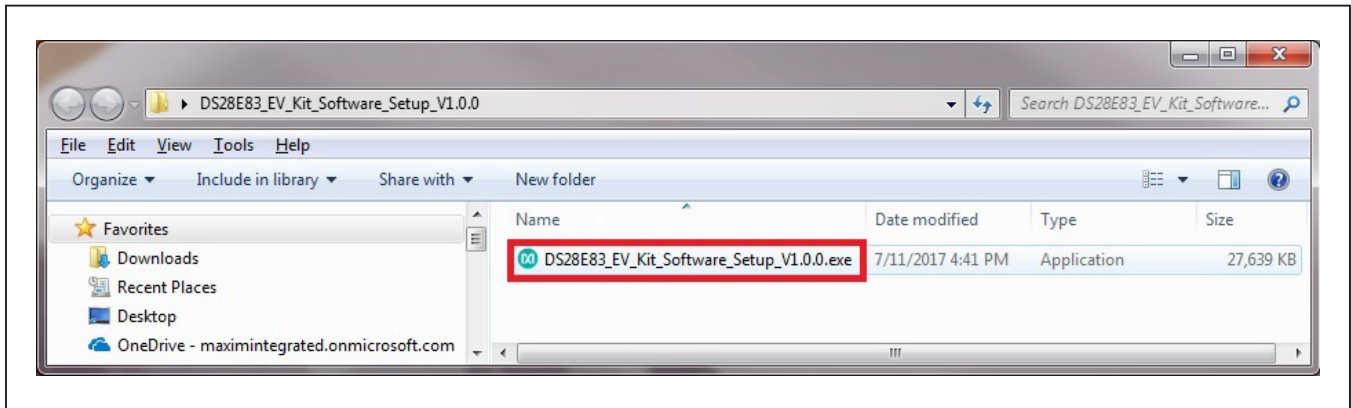

Figure 1. File Viewer
2) In a file viewer (Figure 1), double click on **DS28E83_EV_Kit_Software_Setup_V1.0.0.exe** to begin the installation.